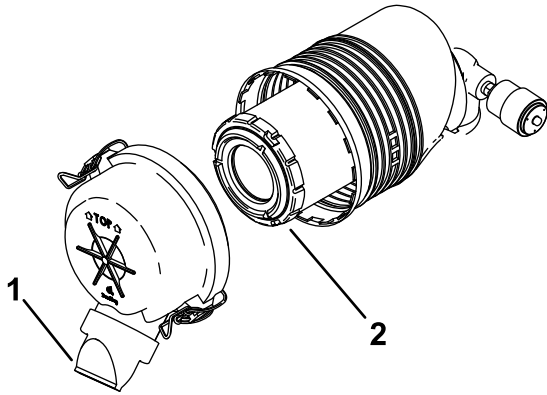

Figure 41
- D. Install the air-cleaner cover with the dust cap oriented downward as shown in Figure 41 and secure the latches.